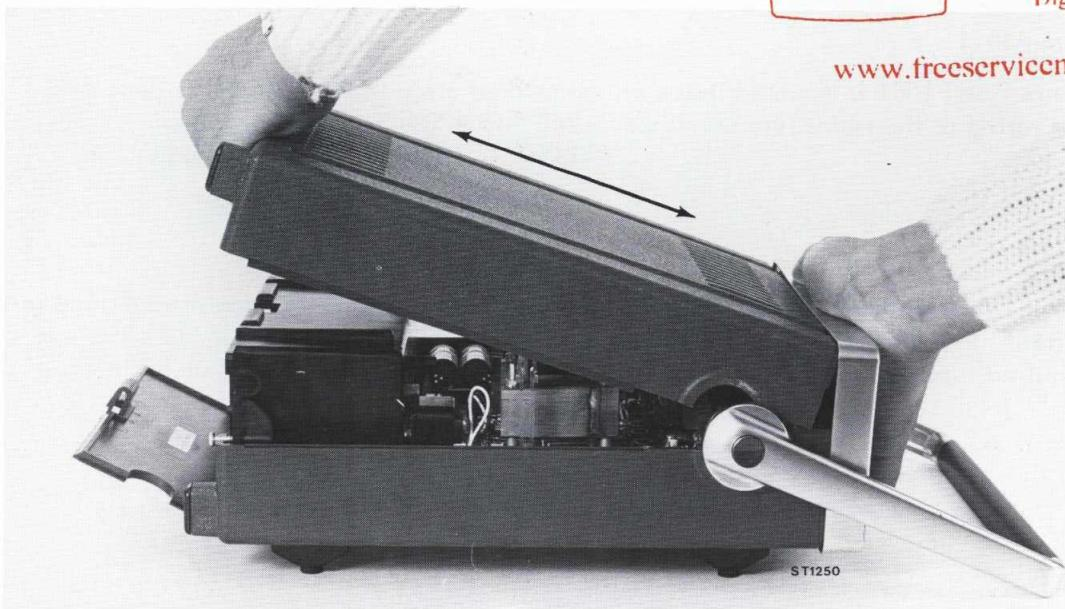

Fig. 29. Removing top cover
- Lift the cover at the rear and pull it out of the front panel (Fig. 29, page)
- To refit the cover press the snaps in the front panel (Fig. 29, page)